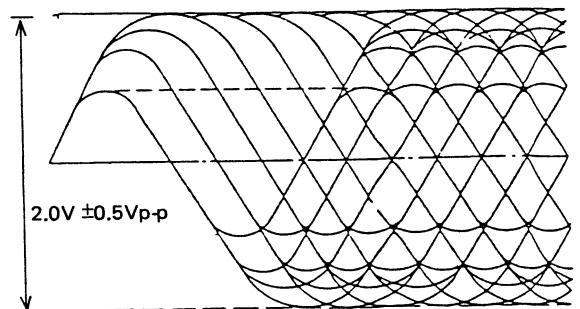

Fig. 3.9 EFM Signal
- (1) Connect TP201 (EFM signal) and TP202 (GND) to CH1 on the oscilloscope, and TP104 (lens kick pulse) and TP102 (GND) to CH2.
- (2) Insert the Philips Test Sample 5 test disc and check the size of the TP201 (EFM signal) output waveform (Fig. 3.9).
- (3) Pause at selection 10 on the Philips Test Sample 5 test disc.